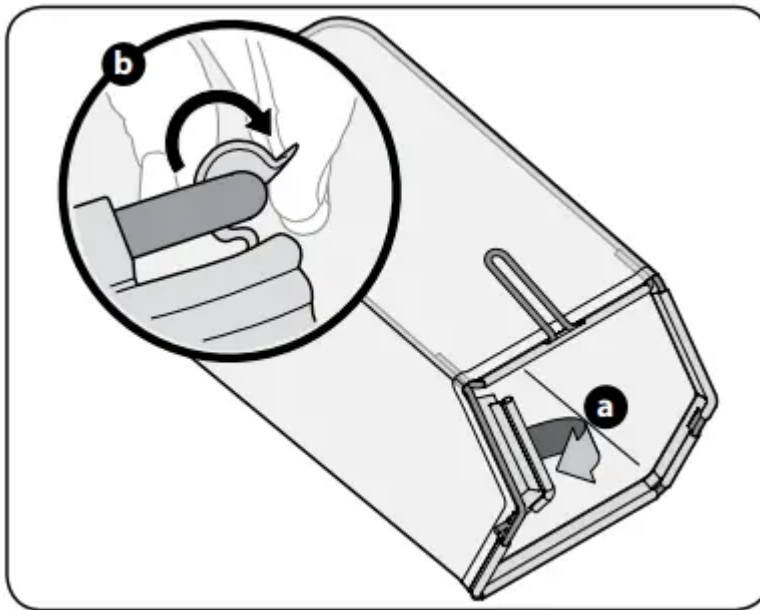

Figure 7
b. Slip plastic channel of grass bag over hooks on the frame. See Figure 7.